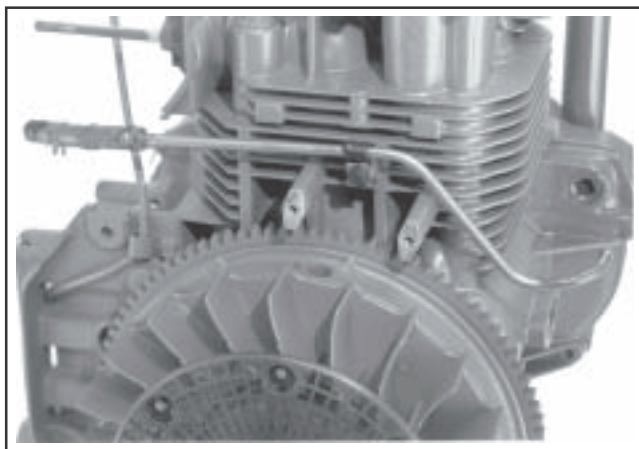

Figure 9-29. Removing Fuel Line.
1. Remove the hex flange screw, clip, and fuel line. See Figure 9-29.